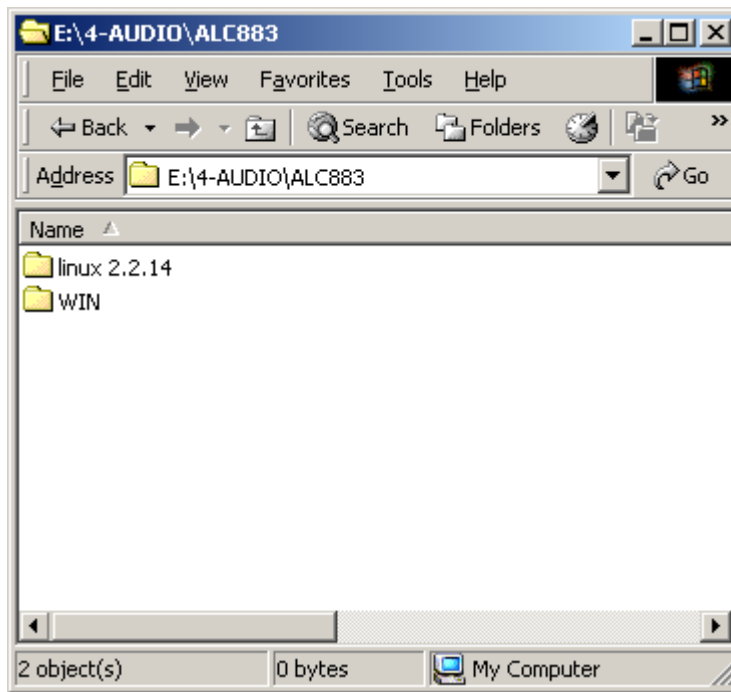

Figure 7-27: Select the OS
Step 4: Double-click the appropriate operating system folder (**Figure 7-27**).